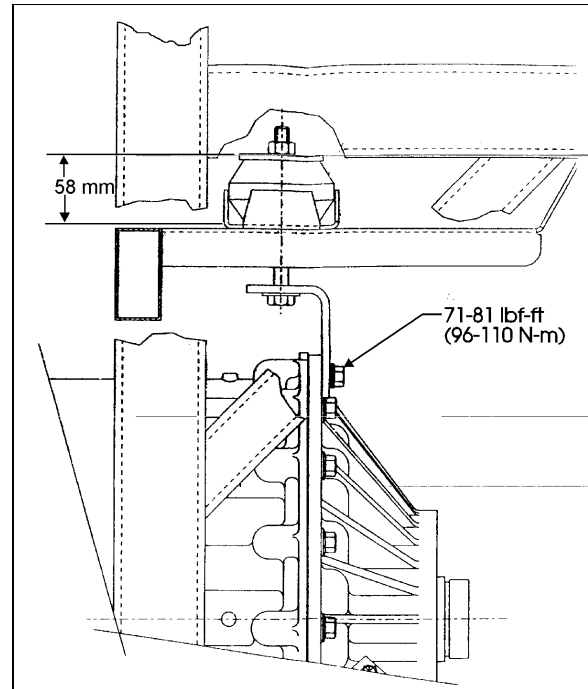

FIGURE 17: RUBBER DAMPER TOLERANCE 07014
- Install the bracket from transmission (Fig. 17) (torque screw to 71-81 lbf•ft [96-110 N•m]).
- Install the transmission rubber damper assembly above transmission by assembling: bolt, washer, rubber damper guide, rubber damper, bushing nut. Respect rubber damper tolerance (58 mm) (Fig. 17).